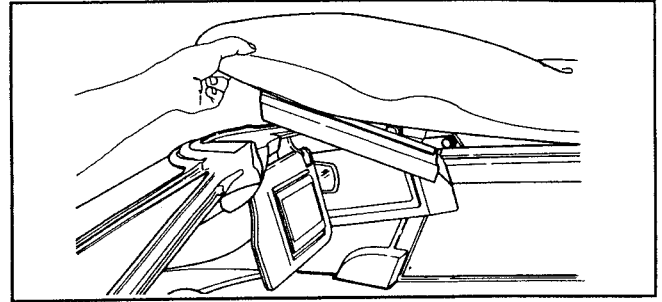

Figure 12. Angle 1-Bow Upward
7. Slightly pull on the 1-bow to angle it upward (Fig. 12).